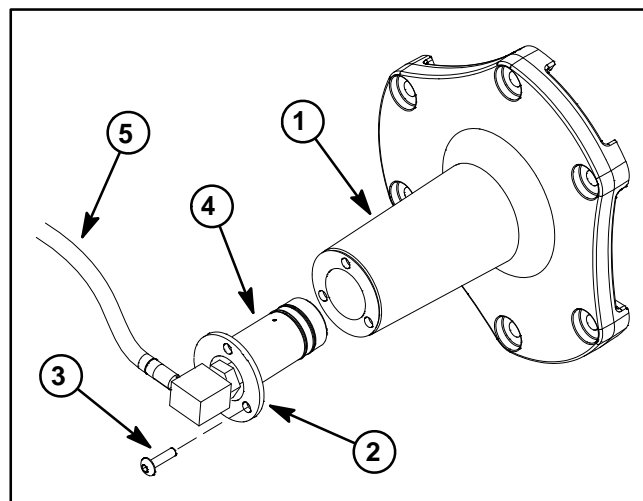

Figure 25
NOTE: If only replacing rotary union O-rings, the rotary union can be removed without disconnecting speed control hose. Remove three (3) button head screws (item 2) and slide rotary union with attached hose and retainer from control cover (Fig. 25).
4. Separate speed control hose (item 1) from rotary union (item 5) by holding fitting on speed control hose and loosening hex on rotary union. Discard banjo washer (item 4).
5. Remove three (3) button head screws that secure retainer (item 3) to speed limiter control cover. Remove retainer.
6. Slide rotary union (item 5) and hydraulic piston (item 10) out of speed limiter control cover.
7. Remove and discard quad ring (item 9) from piston, U-cup (item 8) from control cover and O-rings (item 6) from rotary union.